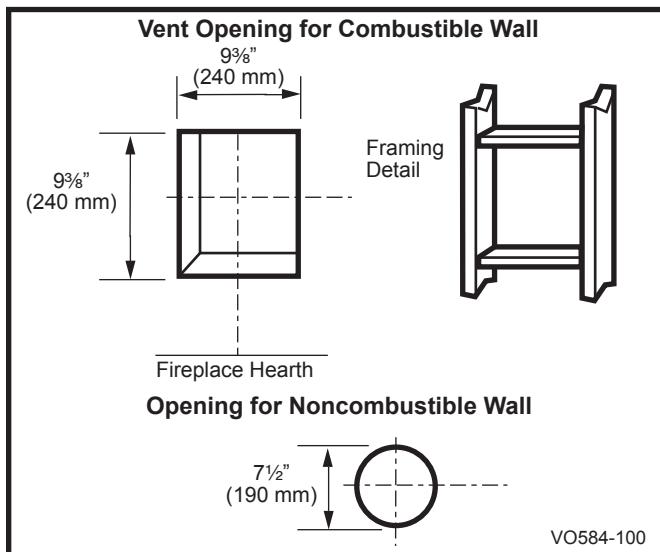

Fig. 15 Locate vent opening on wall.
Locate vent opening on the wall. It may be necessary to first position the fireplace and measure to obtain hole location. Depending on whether the wall is combustible or noncombustible, cut opening to size. (Fig. 15) (For combustible walls first frame in opening.)
Combustible Walls (Fig. 15): Cut a 9³/₈" H x 9³/₈" W (240 x 240 mm) hole through the exterior wall and frame.
Noncombustible Walls (Fig. 15): Hole opening must be 7.5" (190 mm) in diameter.
1. Establish vent hole through the wall. (Fig. 15)